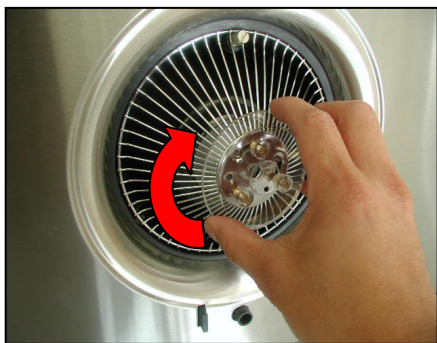

Figure 15
12. Place the oil container (round) into keyhole under each safety screen. Turn clock-wise until firmly in place. Refer to Figure 15.